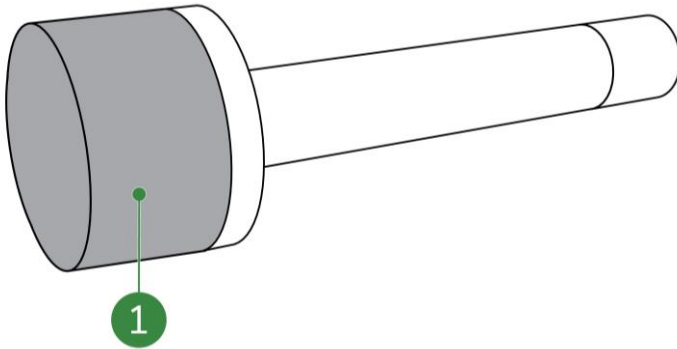

Figure 8-9: Yellow protection cap on sensor
- or place the yellow protection cap on the sensor, see Figure 8-9, pos. 1.